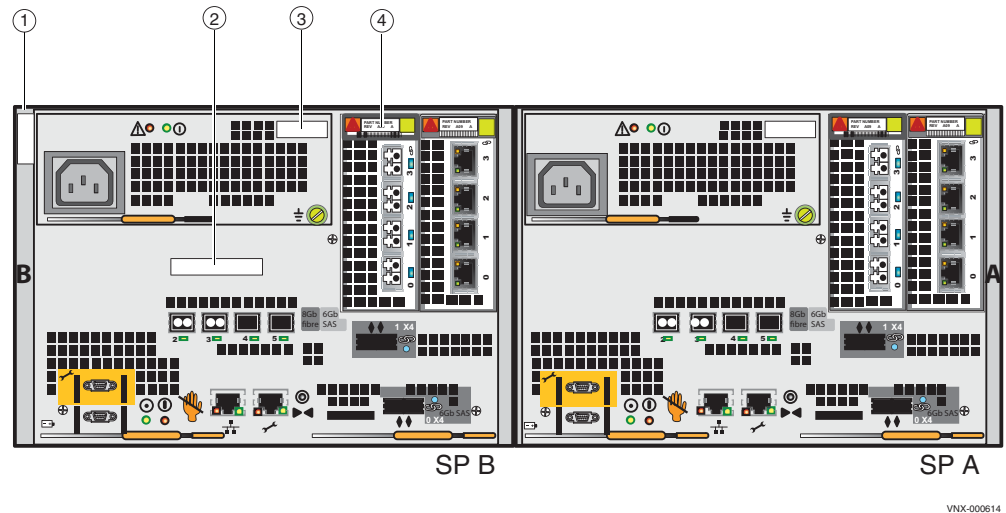

Figure 7 Example of 3U DPE with two SPs (A and B)
Figure 7 shows the rear view of the 3U disk processor enclosure (DPE) with two storage processors (SP A and B).
1. This part is not shown in the example DPE illustration in Figure 7. For a closer view, go to Figure 21 on page 24.
2. This part is not shown in the example DPE illustration in Figure 7. For a closer view, go to Figure 22 on page 25.
3. This part is not shown in the example DPE illustration in Figure 7. For a closer view, go to Figure 23 on page 26.
4. This part is not shown in the example DPE illustration in Figure 7. For a closer view, go to Figure 24 on page 27.